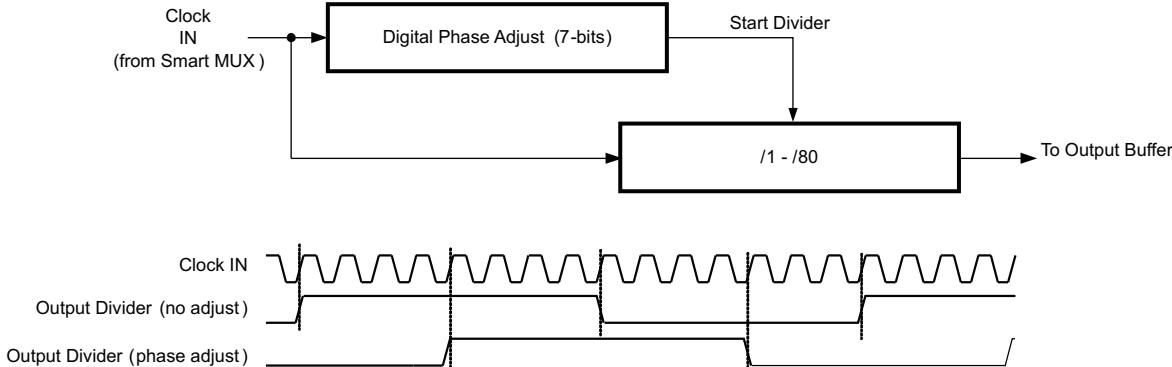

Figure 26. CDCE18005 Phase Adjust
Figure 26 provides an overview of the Digital Phase Adjust feature. The output divider includes a coarse phase adjust that shifts the divided clock signal that drives the output buffer. Essentially, the Digital Phase Adjust timer delays when the output divider starts dividing; thereby shifting the phase of the output clock. The phase adjust resolution is a function of the divide function. Coarse phase adjust parameters include:
- Number of Phase Delay Steps – the number of phase delay steps available is equal to the divide ratio selected. For example, if a Divide by 4 is selected, then the Digital Phase Adjust can be programmed to select when the output divider changes state based upon selecting one of the four counts on the input. Figure 26 shows an example of divide by 16 in which there are 16 rising edges of Clock IN at which the output divider changes state (this particular example shows the fourth edge shifting the output by one fourth of the period of the output).